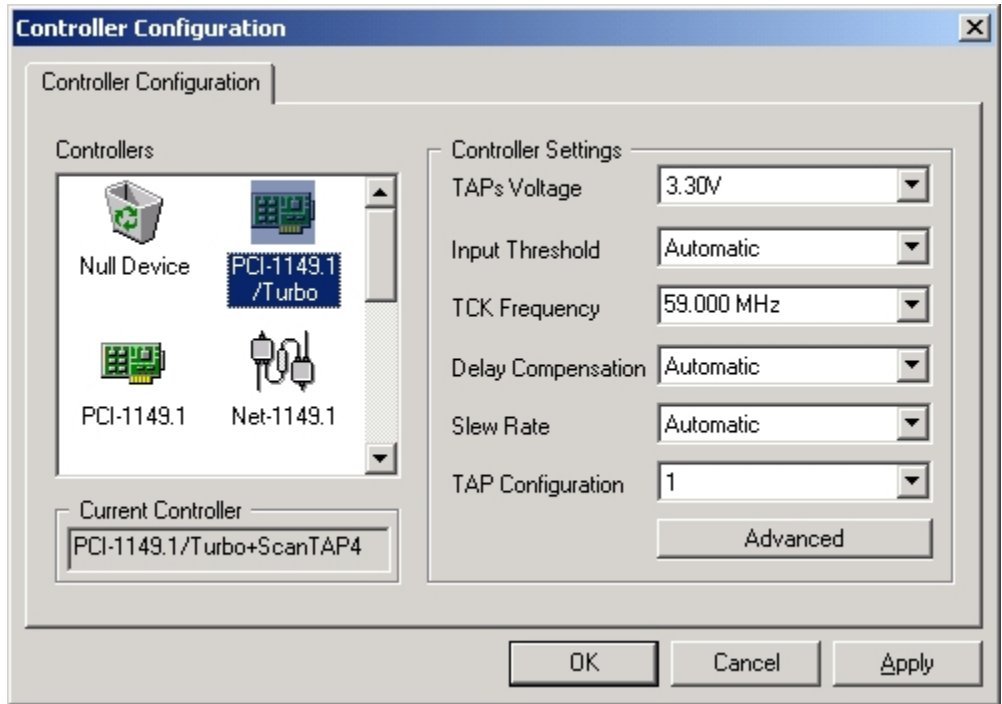

Figure 4-3. Successful PCIe-1149.1 With ScanTAP Setup Screen
6. Once ScanPlus Runner finds the PCIe-1149.1 controller, **with the ScanTAP-4 connected to it**, it displays a screen similar to Figure 4-3. Note that saving the test plan (.tsp) file in ScanPlus Runner FILE menu also saves the settings in the system registry. The next time the .tsp file is loaded into ScanPlus Runner it will use these settings to initialize the controller.
- Method 1 The **TAP Configuration** select box in the **Controller Configuration** screen (see Figure 4-3). This is the preferred and most straightforward method for selecting which of the 4 ScanTAP-4 TAPs to use for connecting to the target.